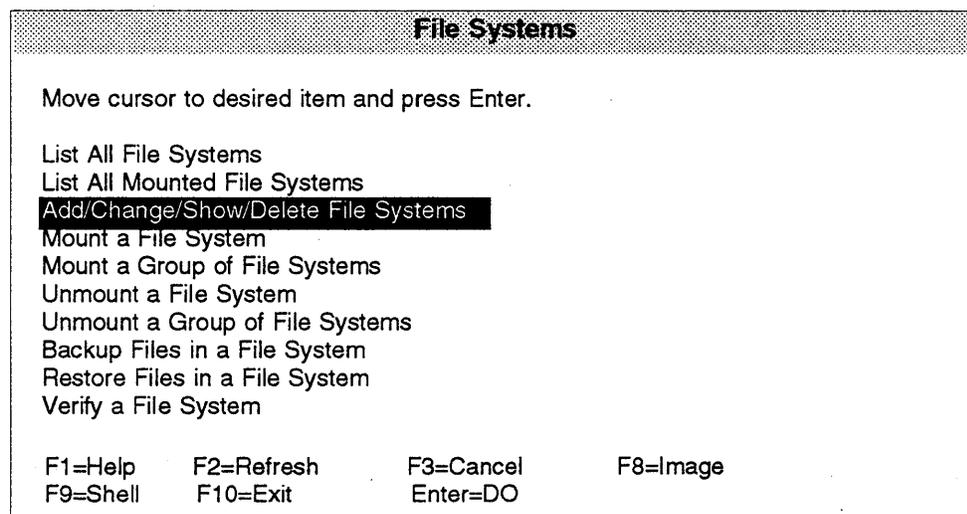

Figure 4-17: File Systems Menu
- 1 At the “Physical and Logical Storage Menu,” select “File Systems” and the menu will appear as shown in Figure 4-17.